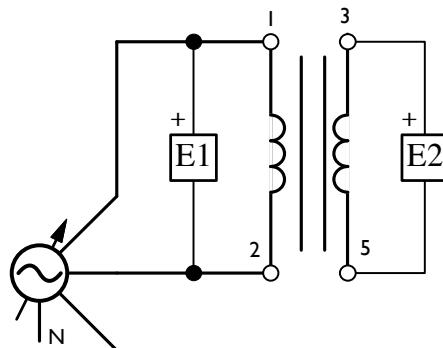

Figure 2.2: Single Phase Transformer
- 5. Construct the circuit shown in Figure 2.2. Note that E1 measures the input (primary side) voltage E_{1-2} , and E2 measures the corresponding output voltage E_{3-5} on the secondary side of a single-phase transformer.